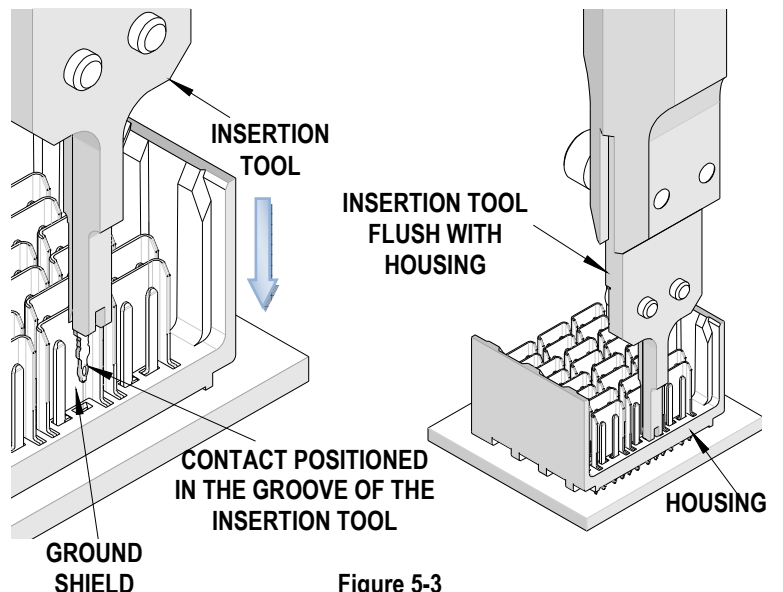

Figure 5-3
7. Continue pushing the signal contact until the insertion tool and terminal shoulder are seated securely to the inside housing surface. See Figure 5-3.